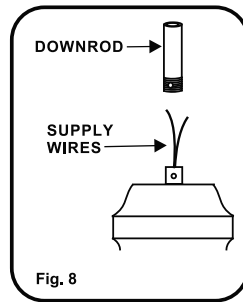

Fig. 8
Step 4. Carefully feed fan wires up through the downrod(Fig 8) Thread the rod into the coupling, next line up holes and replace lock pin and hitch pin. Tighten set screws. (Fig.9)